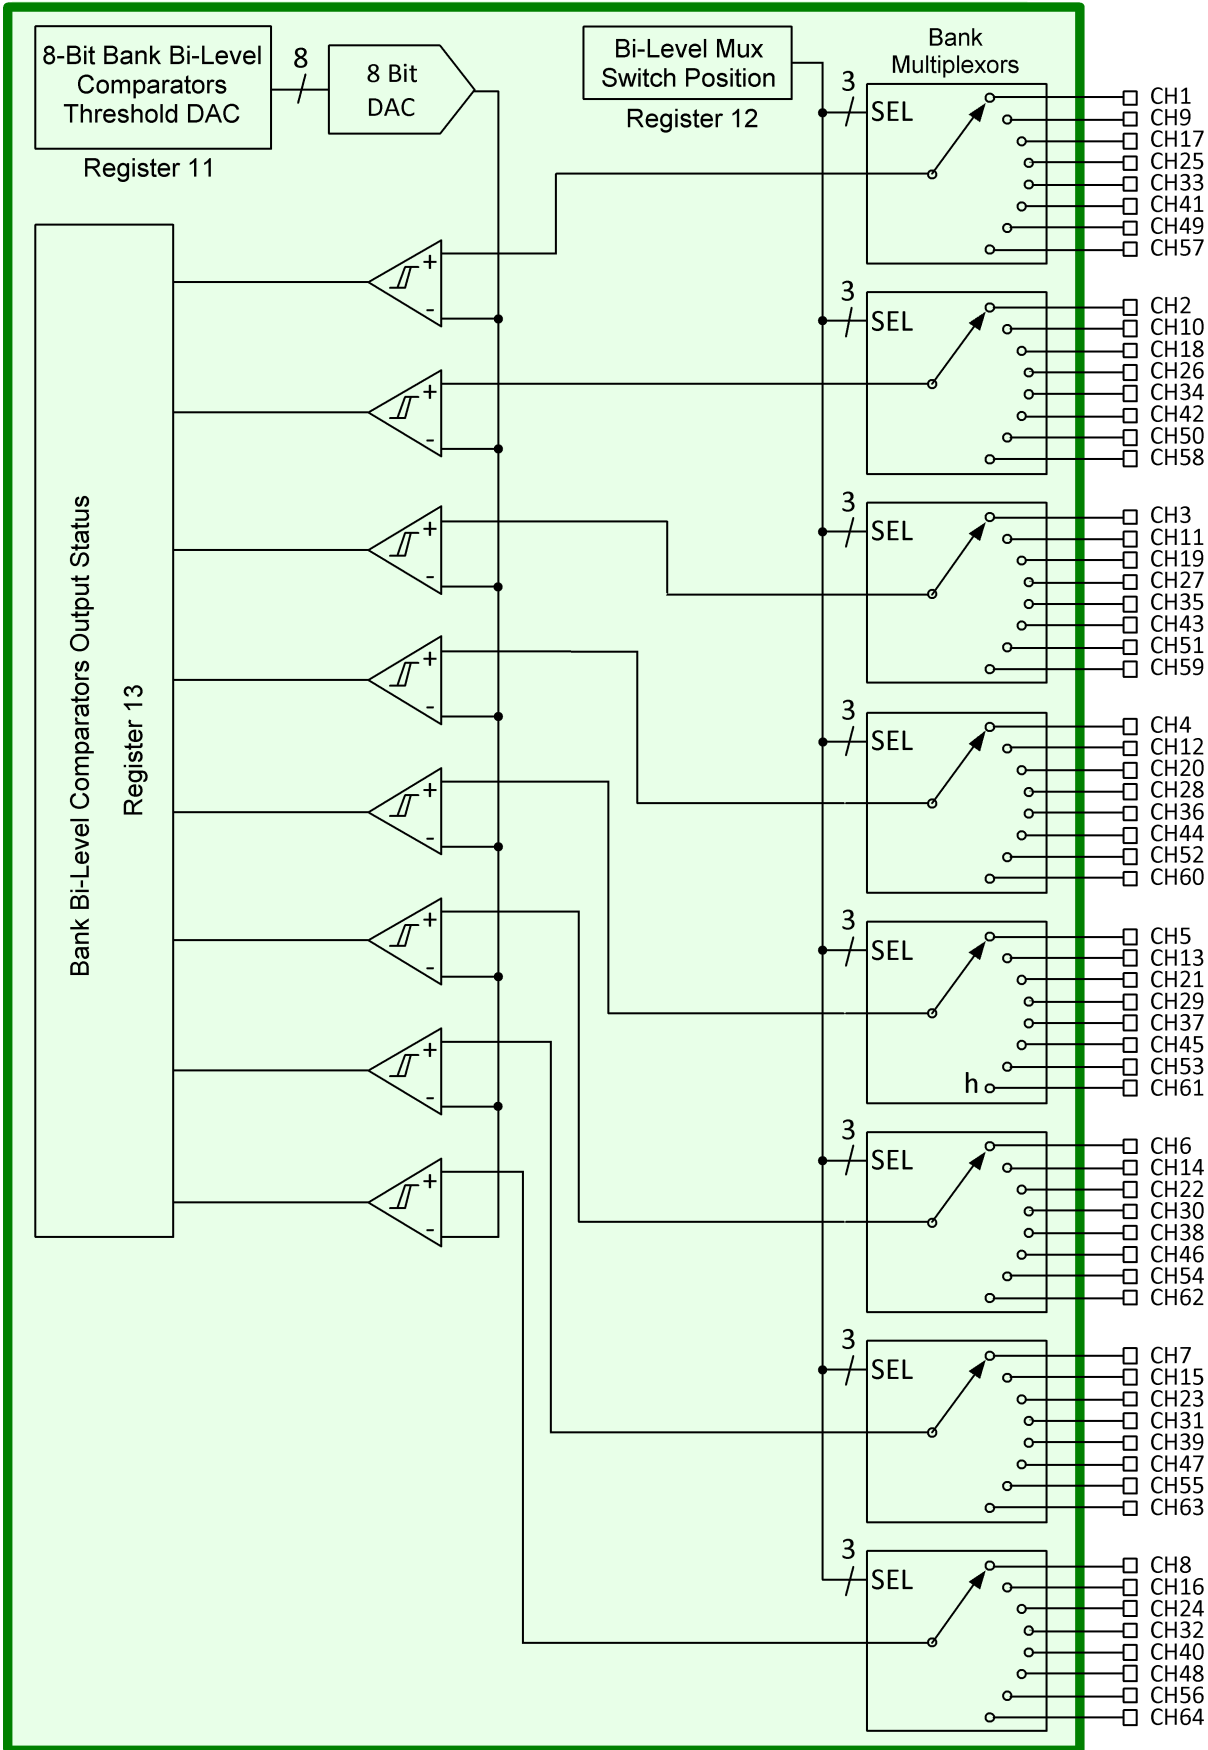

Figure 6. Bank Bi-Level Comparators Block Diagram
- The 8 bank bi-level comparators' inputs connect to a configurable combination of the 64 analog inputs CH1 to CH64 (see block diagram Figure 6 on page 22, and section 15 on page 24). The bank comparator outputs appear in the Bank Bi-Level Comparators Output Status register 13 (Table 29 on page 44).
Figure 6 on page 22 shows a block diagram of bank bi-level comparators operating with register 12's En Sw bit D3 = 1. Here, the 8 bank multiplexers are controlled by a common 3-bit selection input.
When Bank Bi-Level Comparators Input Selection register 12's En Sw bit D3 = 0, the bank bi-level comparators are connected to inputs selected by Mux Channel Select registers 3 and 4 (Table 19 on page 36, Table 20 on page 37). In this mode, the 8 bank multiplexers are controlled individually, not by a common 3-bit selection input as in the case for Figure 6. Since the output of each of the 8 bank multiplexers routes to a bank bi-level comparator input, it is necessary to follow the ASM multiplexer input selection logic to determine the bank bi-level comparator inputs.